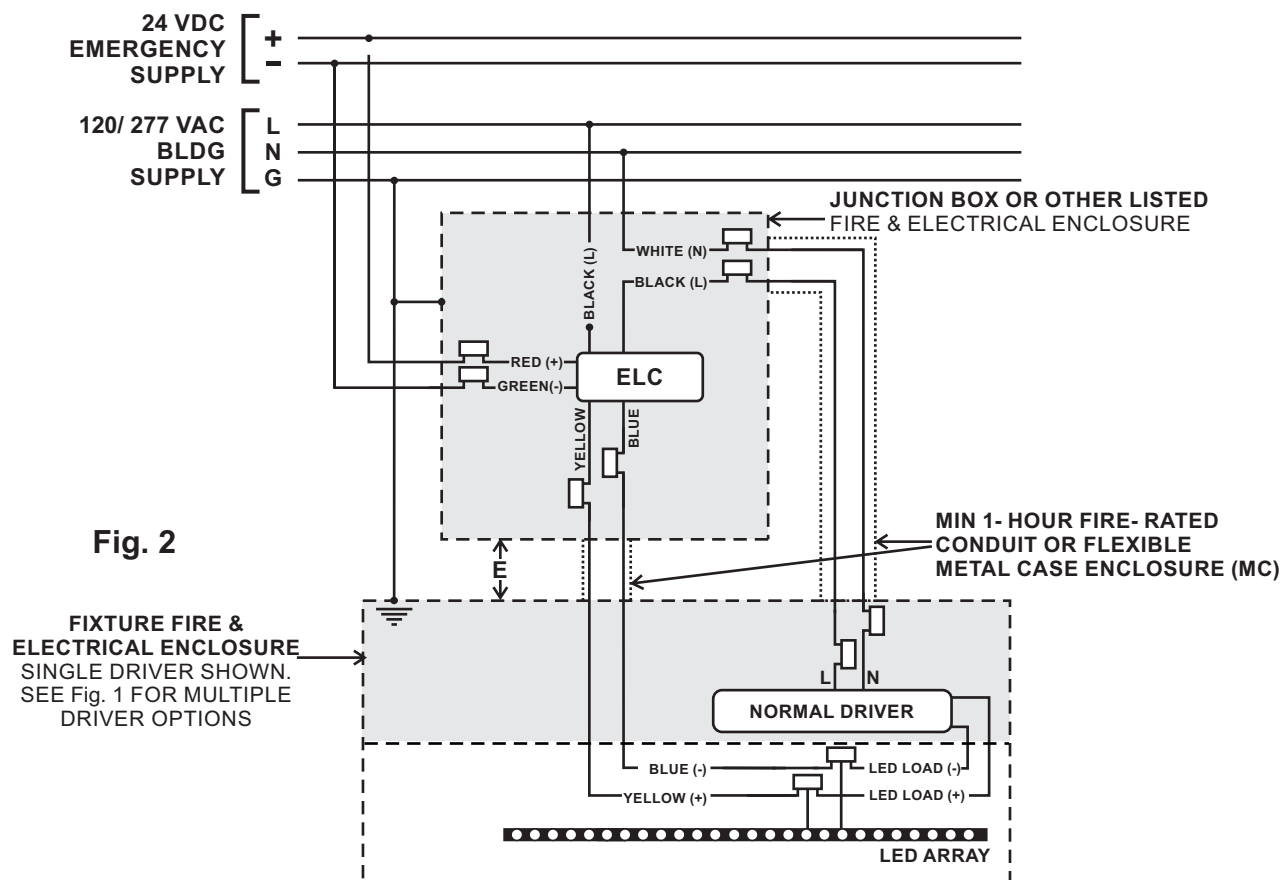

**Fig. 1**
3. See Fig 1. Output has a POSITIVE (Yellow) and NEGATIVE (Blue) wire. Using push-in wire nuts , connect output from the ELC as shown to LED LOAD NEGATIVE and LED LOAD POSITIVE. DO NOT CROSS POLARIZE LED WIRING.